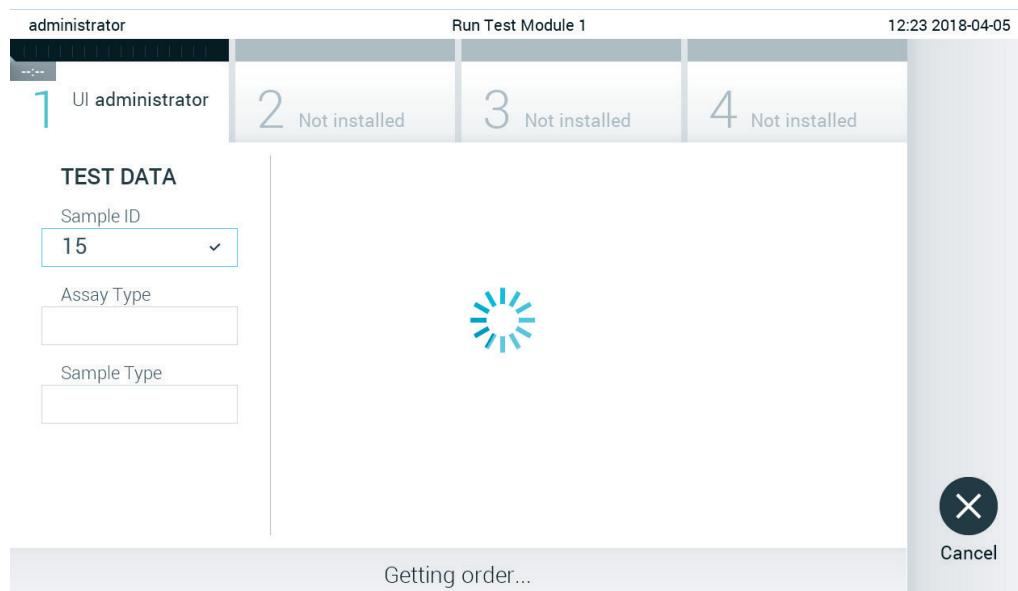

Figure 82. Display during test order retrieval.
3. The sample ID will be sent to the host and while the QIAstat-Dx Analyzer 1.0 waits for a test order, the message “Getting order...” is displayed (Figure 82).